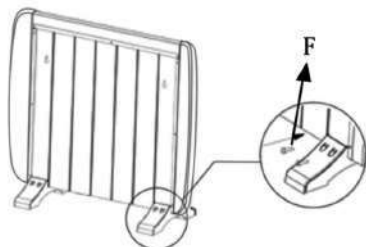

Figure 12
1. Screw the two feet to the lower rear part of the heater with the four screws provided (F), 2 screws per foot. (Figure 12)